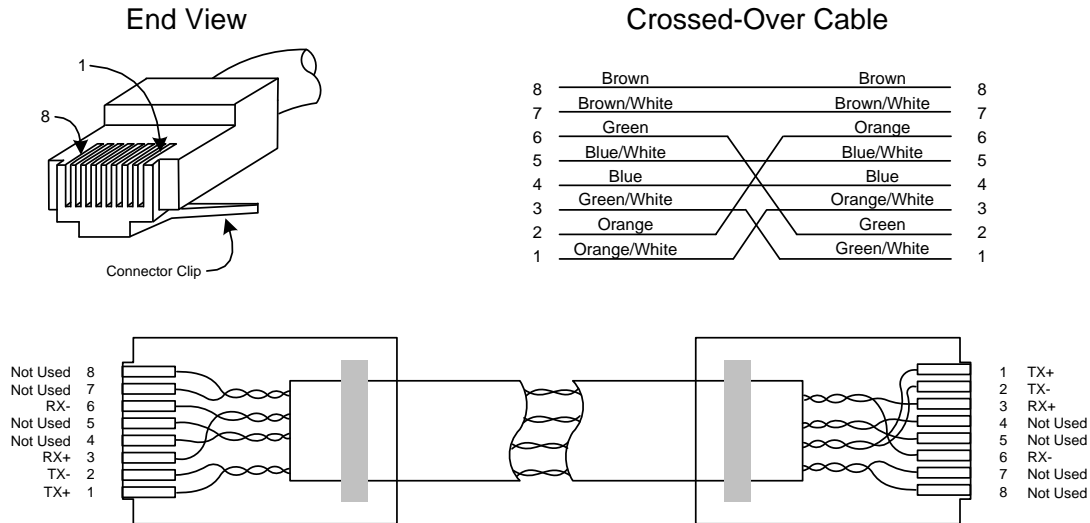

Figure 4-3 Ethernet Cable-Cross-Over
- Ethernet Cross-Over Cable (see Figure 4-3).